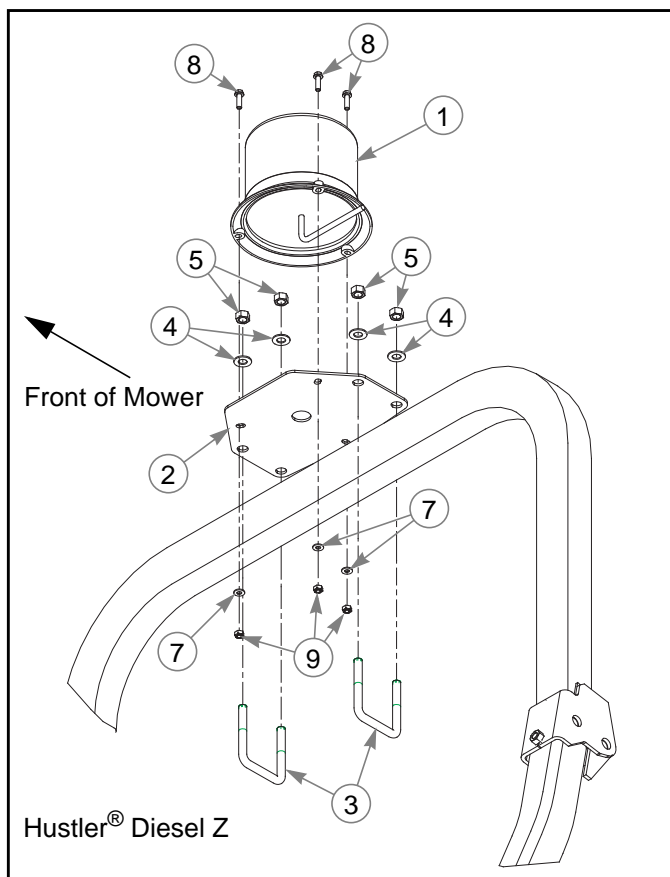
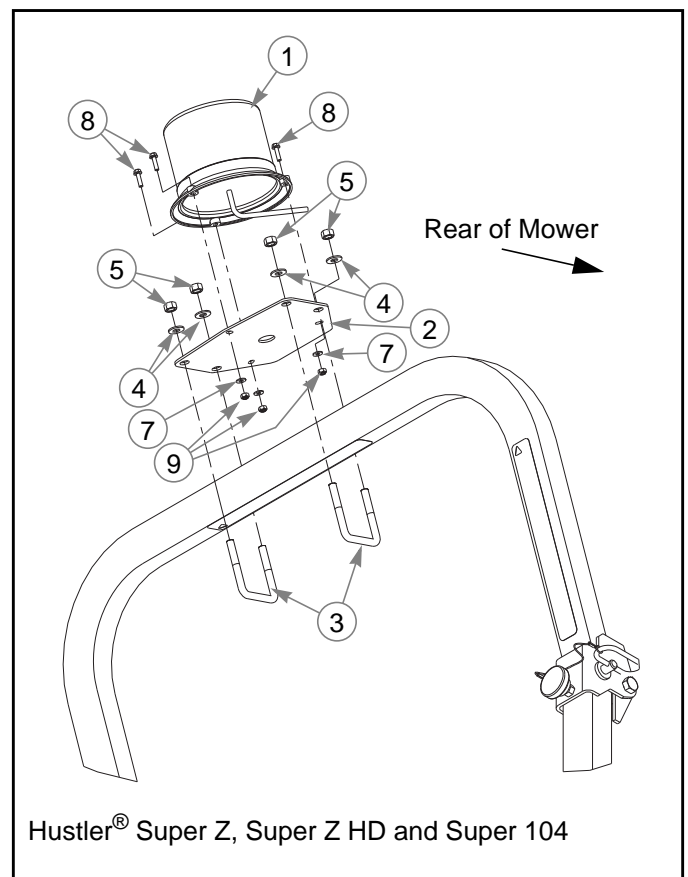

Fig. 1
Fig. 2
2. Attach the caution light to the mounting plate. Fig. 1 and Fig. 2
NOTE: For Diesel Z mowers make sure the plate extends toward the front of the mower. Fig. 1
NOTE: For Super Z, Super Z HD and Super 104 mowers make sure the plate extends toward the rear of the mower. Fig. 2